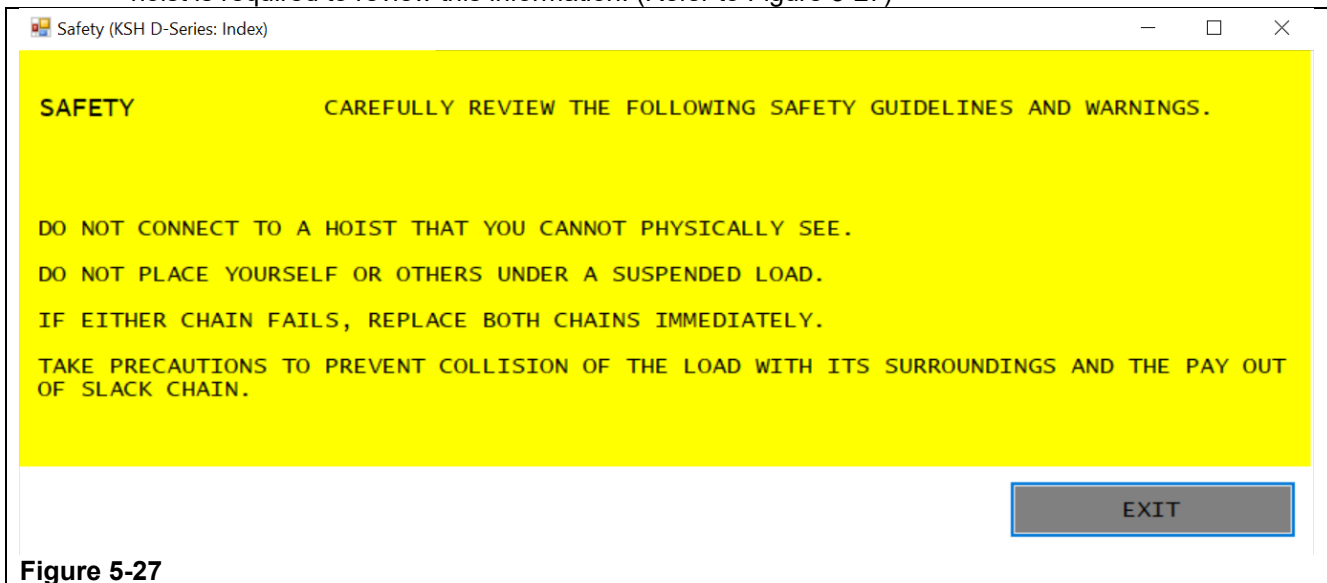

Figure 5-27
- Lower) There are (5) five buttons that will display different overview screens for the Servo Hoist.
Step 3. Review the information on this screen. Anyone who will be operating or doing maintenance on the hoist is required to review this information. (Refer to Figure 5-27)